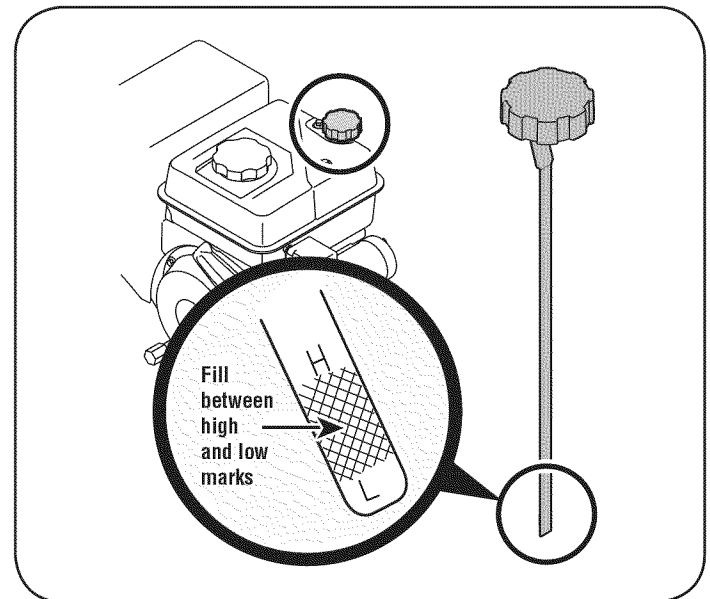

Figure 12
3. Remove the oil filler cap/dipstick. If the level is low, slowly add oil until oil level registers between high (H) and low (L), Figure 12.